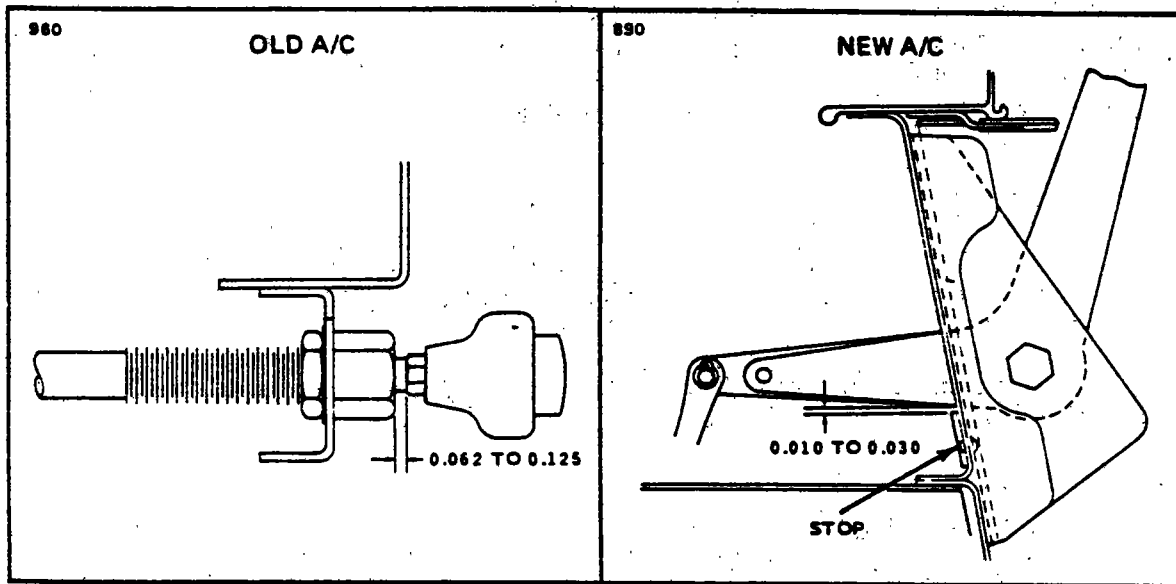

Figure 8-10. Adjustment of Engine Controls
**8-24. ADJUSTMENT OF THROTTLE AND MIXTURE CONTROLS.** (Refer to Figure 8-10.) Throttle and mixture controls are adjusted so that when the throttle arm on the carburetor is rotated forward against its full throttle stop and the mixture control is rotated forward against its full rich stop, the cockpit control knobs of the throttle and mixture should have 0.062 to 0.125 of an inch spring back when in the forward position.
**8-25 ADJUSTMENT OF THROTTLE AND MIXTURE CONTROLS.** (PA-28-140, Serial Nos. 28-25000 and up; PA-28-180, Serial Nos. 28-4378 and up; PA-28-235, Serial Nos. 28-11040 and up.) (Refer to Figure 8-10.) Throttle and mixture controls are adjusted so that when the throttle arm on the carburetor is rotated forward against its full throttle stop and the mixture control is rotated forward against its full rich stop, the cockpit control levers of the throttle and mixture should have 0.010 to 0.030 of an inch spring back when in the forward position.